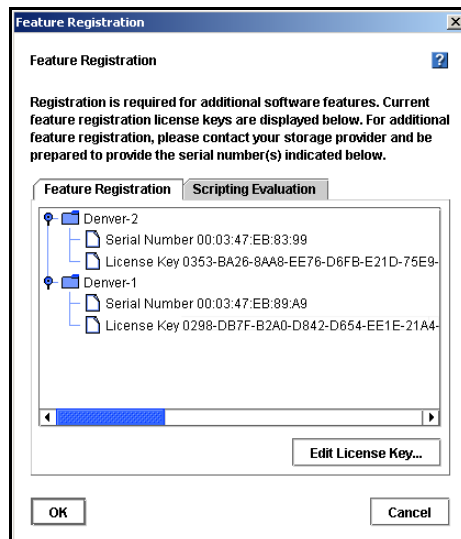

Figure 221. Viewing License Keys
6. Click OK. The license key information is updated in the Feature Registration window, as shown in Figure 221.